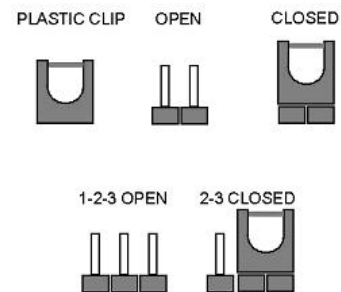

Figure 4-6: Jumper Locations
- Jumper Location: See **Figure 4-6**